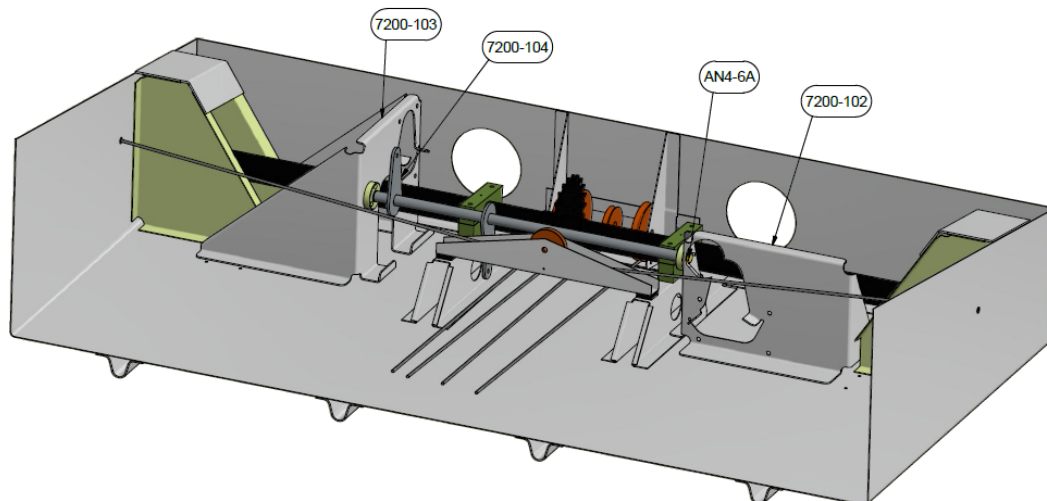

Figure 2-5
- 1.8. Place the PA-28 pitch bracket assembly (P/N 7200-103) over the flap tube on the as shown in Figure 2-5. Connect the free end of the PA-28 bellcrank (P/N 7200-104) to the PA-28 roll bracket assembly (P/N 7200-102) using an AN4-6 bolt. Hand tighten AN4-6 bolt as it will be removed prior to final fitting.